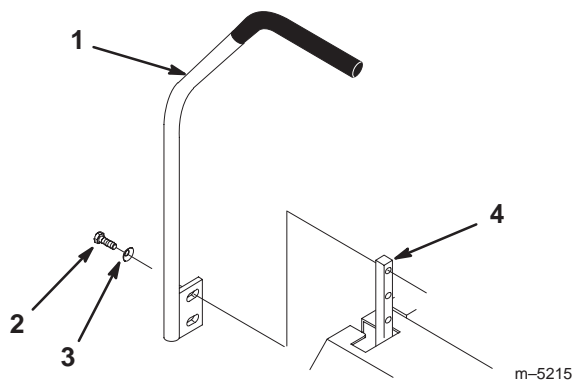

Figure 3
1. Remove the 4 bolts (3/8 x 1 in.) and 4 curved washers (3/8 in.) which attach the motion control levers to the control arm shafts for shipping (Fig. 3).
2. Place the levers (with the mounting plates toward the rear of the machine) on the outside of the control arm shaft and loosely secure them with the 4 bolts and curved washers removed in step 1 (Fig. 3).